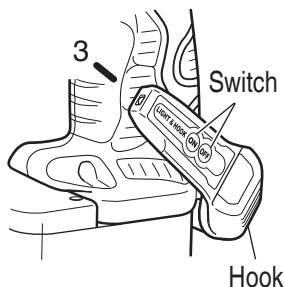

Fig. 13
- (3) Using as an auxiliary light
- (b) The direction of the light can be adjusted within the range of hook positions 1 - 5. (**Fig. 13**)